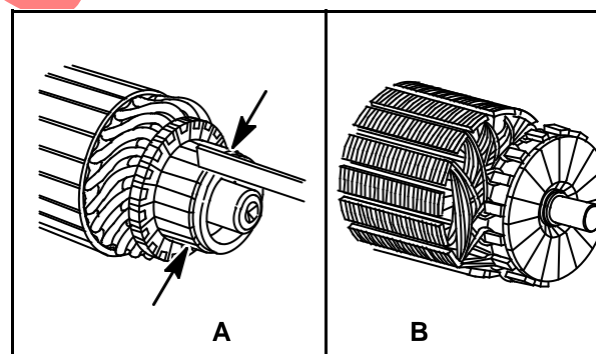

Fig. 16
The armature commutator shown in Fig. 16 (A) can be cleaned with fine sandpaper. DO NOT use emery cloth. The commutator can be machined a diameter of NO LESS THAN 1.230" (31.24 mm).
Slots between commutator bars should be cleaned as shown in Fig. 16 (A) after sanding or machining.
NOTE: The style armature commutator shown in Fig. 16 (B) cannot be machined.